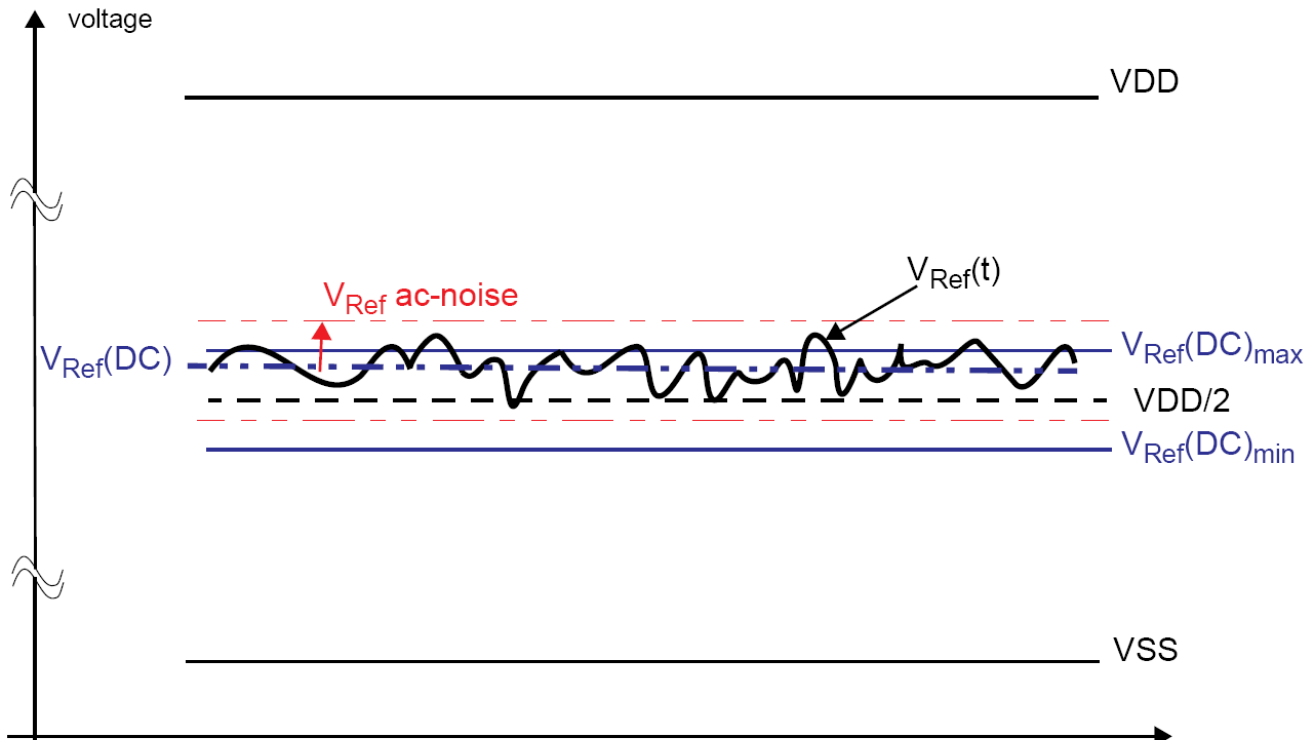

Figure 7.1 — Illustration of VRef(DC) tolerance and VRef ac-noise limits
The dc-tolerance limits and ac-noise limits for the reference voltages VRefCA and VRefDQ are illustrated in Figure 7.1. It shows a valid reference voltage VRef(t) as a function of time. (VRef stands for VRefCA and VRefDQ likewise). VDD stands for VDD2 for VRefCA and VDDQ for VRefDQ. VRef(DC) is the linear average of VRef(t) over a very long period of time (e.g. 1 sec) and is specified as a fraction of the linear average of VDDQ or VDD2 also over a very long period of time (e.g. 1 sec). This average has to meet the min/max requirements in Table 24. Furthermore VRef(t) may temporarily deviate from VRef(DC) by no more than +/- 1% VDD. Vref(t) cannot track noise on VDDQ or VDD2 if this would send Vref outside these specifications
The voltage levels for setup and hold time measurements VIH(AC), VIH(DC), VIL(AC) and VIL(DC) are dependent on VRef. “VRef “ shall be understood as VRef(DC), as defined in Figure 7.1.